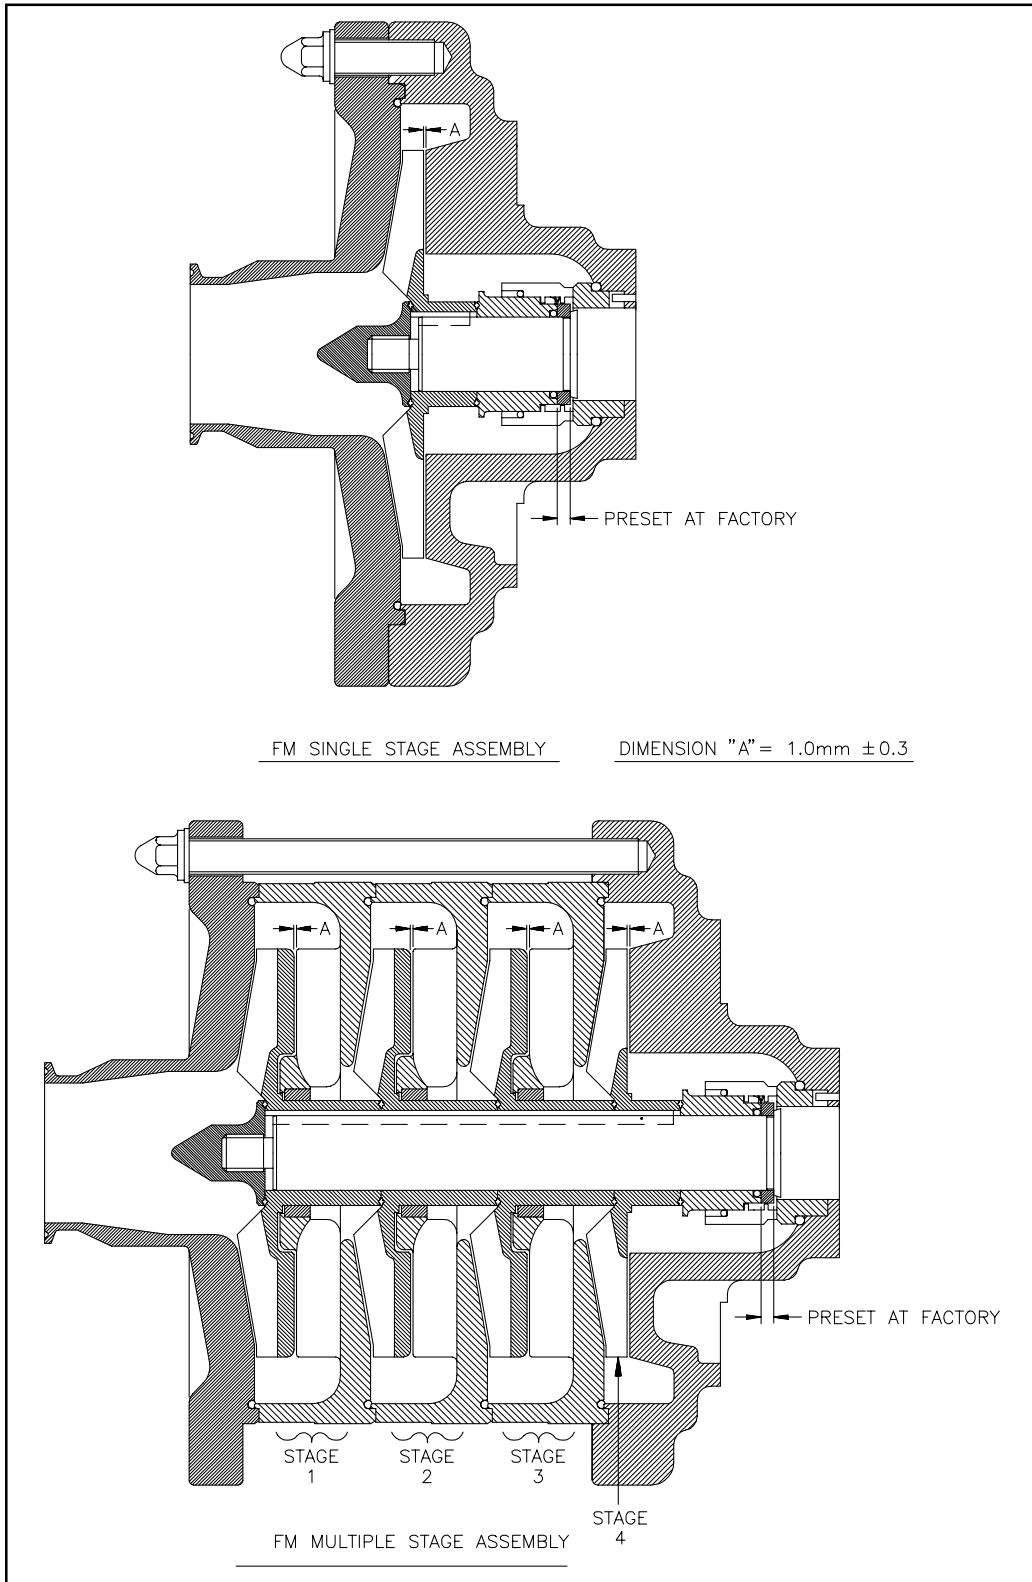

Figure 8: Gap Set At Factory
Remove the o-ring and stainless gapping spacer (42) from the shaft (34). **IMPORTANT:** This gapping spacer is unique to this pump as it ensures the correct gap for the impellers as installed at the factory (Figure 8, page 15). **Do not discard.** If you are replacing the pump shaft on your FM pump, please contact the factory for proper gapping procedure.